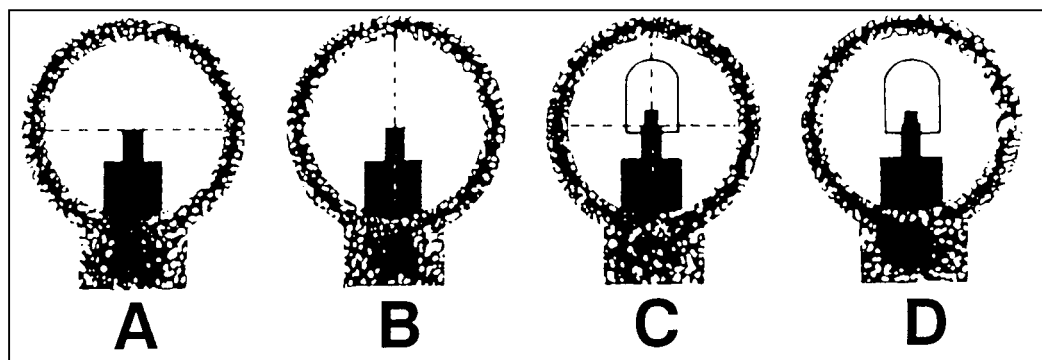

Figure 4-2. Sight picture.
(3) *Sight Picture.* A correct sight picture has the target, front sight post, and rear sight aligned. The sight picture consists of sight alignment and placement of the aiming point on the target. The gunner aligns the front sight post in the center of the rear sight and then aligns the sights with the target. The top of the front sight post is aligned on the center base of the target (Figure 4-2).